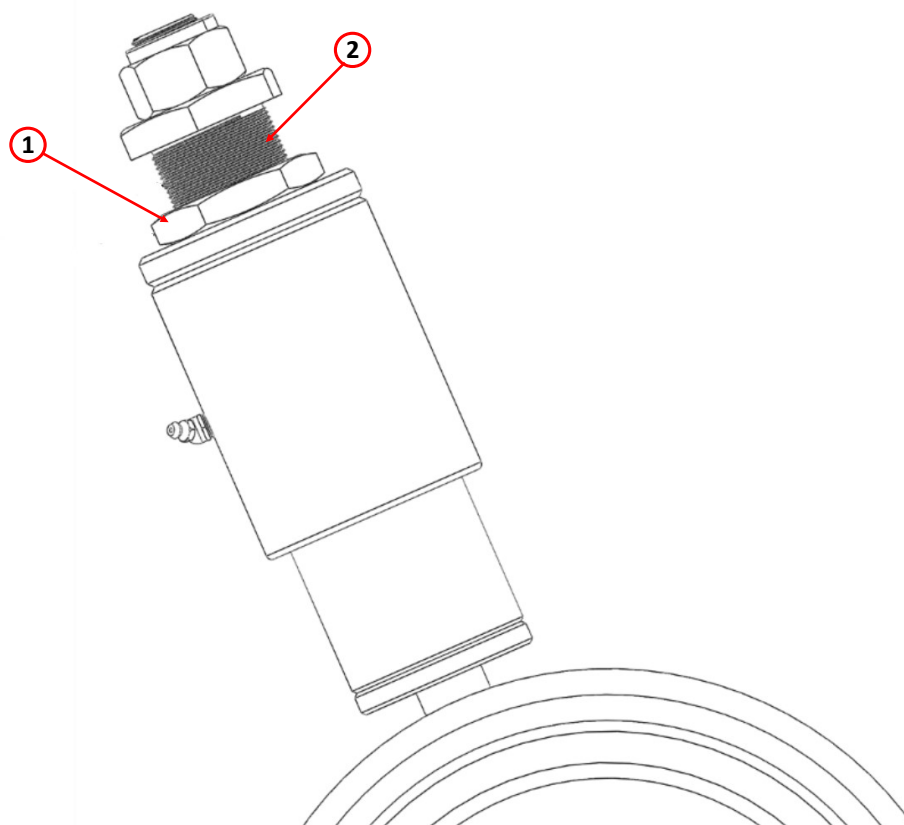

Figure 8
3. Loosen lock nut (1), shown on Figure 8. Insert a 1/2 inch drive ratchet into the 1/2 inch socket in the adjusting stud (2). Turn the adjusting stud clockwise to increase the load on the guide wheel or counter-clockwise to decrease the load on the guide wheel. Tighten lock nut (1).